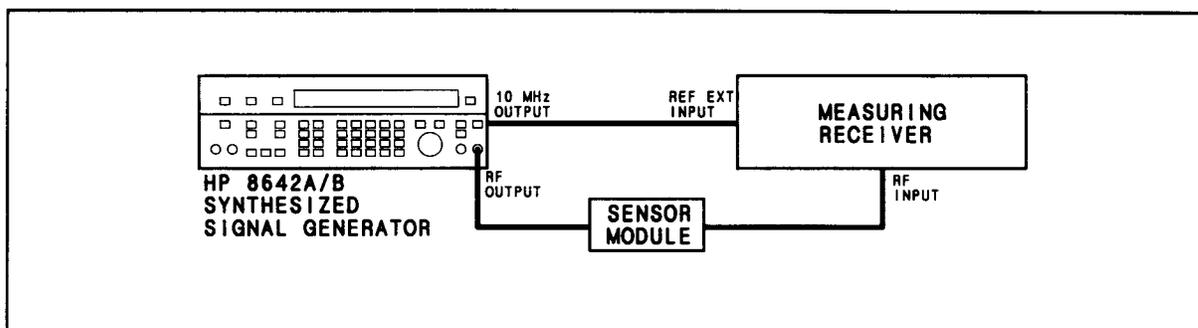

Figure 4-2. Harmonics Test Setup
1. Connect the instruments as shown in Figure 4-2.